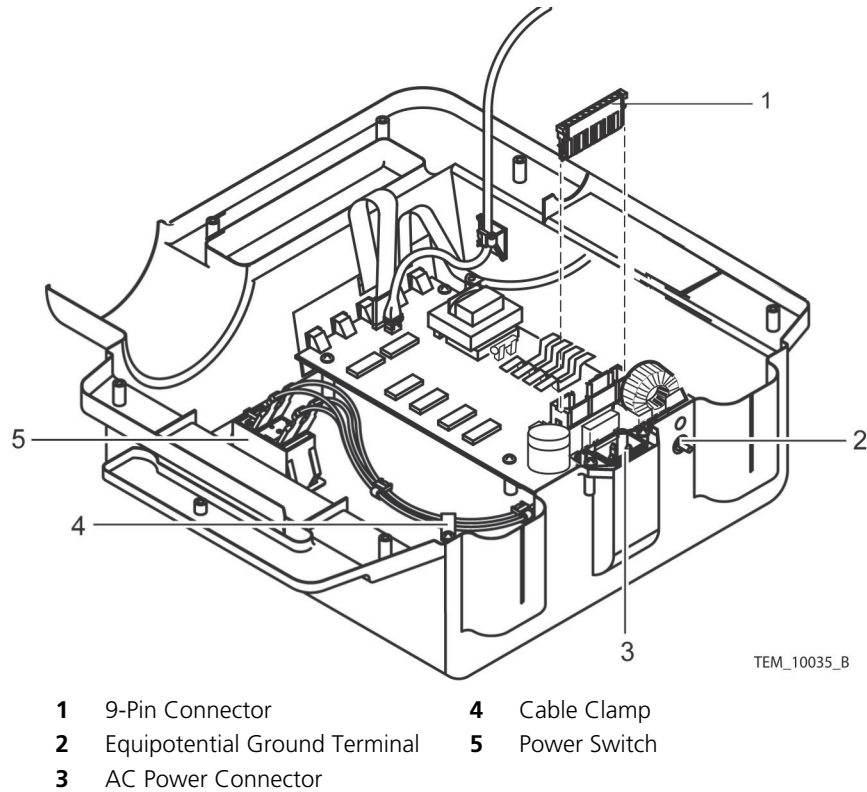

Figure 41. Front Cover Assembly
6. Disconnect the 9-pin connector from the Control PCB. See Figure 41, item 1.
24. Connect the 9-pin connector to the Control PCB. See Figure 41, item 1.